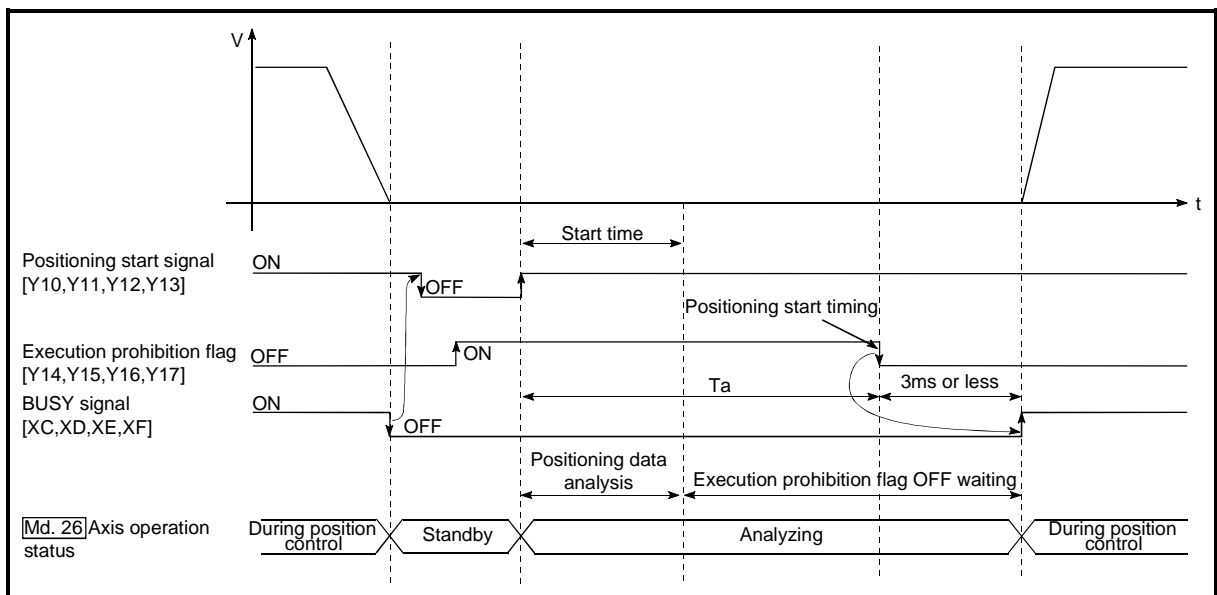

Fig. 12.48 Operations of pre-reading start function
The pre-reading start function is performed by turning ON the positioning start signal [Y10, Y11, Y12, Y13] with the execution prohibition flag [Y14, Y15, Y16, Y17] ON, or by executing the dedicated instruction (PSTRT1, PSTRT2, PSTRT3, PSTRT4). However, if positioning is started with the execution prohibition flag ON, the positioning data is analyzed but pulse output is not provided. While the execution prohibition flag is ON, "Md.26 Axis operation status" remains unchanged from "5: Analyzing". Pulse output starts within 3ms after the execution prohibition flag [Y14, Y15, Y16, Y17] has turned OFF, and "Md.26 Axis operation status" changes to the status (e.g. during position control, during speed control) that matches the control system. (Refer to Fig. 12.48)
Hence, pre-reading of the next data starts during the stop time T_w . If T_w is a certain period of time, the analysis of the next data is completed during that period, and the system is placed in an execution prohibition flag OFF waiting status. Therefore, replacing the positioning start timing at ② with the execution prohibition flag OFF allows the time from when the axis operation request turns ON until pulse output starts to be reduced to within 3ms in the sequence program. (Refer to Fig. 12.48)
- (1) The time required to analyze the positioning data is up to 7ms.
- (2) After positioning data analysis, the system is put in an execution prohibition flag OFF waiting status. Any change made to the positioning data in the execution prohibition flag OFF waiting status is not reflected on the positioning data. Change the positioning data before turning ON the positioning start signal.
- (3) The pre-reading start function is invalid if the execution prohibition flag is turned OFF between when the positioning start signal has turned ON and when positioning data analysis is completed (Ta < start time, Ta: Refer to Fig. 12.48).
- (4) The data No. which can be executed positioning start using "[Cd.3] Positioning start No." with the pre-reading start function are No. 1 to 600 only. Performing the pre-reading start function at the setting of No. 7000 to 7004 or 9001 to 9004 will result in an outside start No. range error (Error code: 543).
- (5) Always turn ON the execution prohibition flag at the same time or before turning ON the positioning start signal. Pre-reading may not be started if the execution prohibition flag is turned ON during Ta after the positioning start signal is turned ON. The pre-reading start function is invalid if the execution prohibition flag is turned ON after positioning start (pulse output) with the execution prohibition flag OFF. (It is made valid at the next positioning start.)